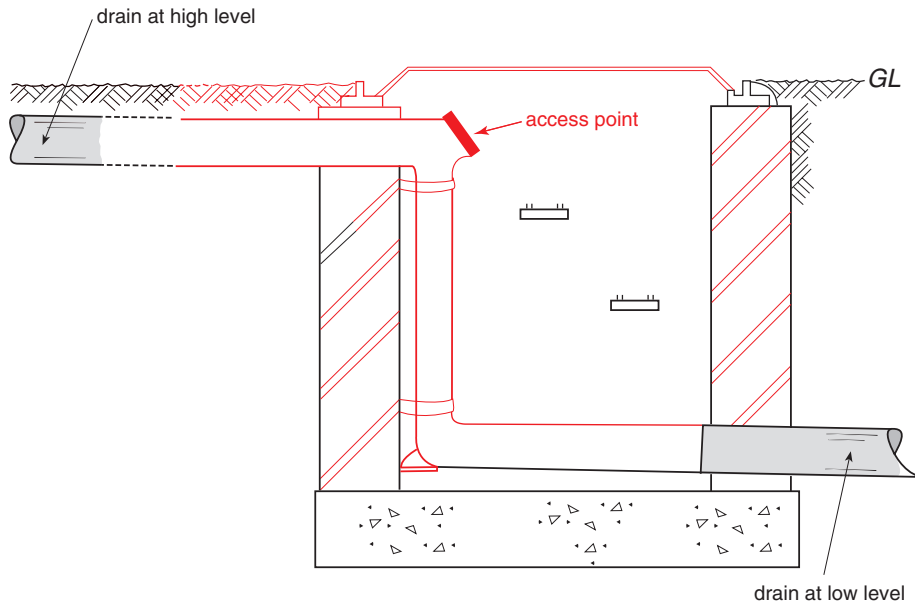

Figure 34
- (87) Complete Figure 34 to show how the uPVC drain at high level can be made to connect suitably to the drain at the lower level. (Page 337.)